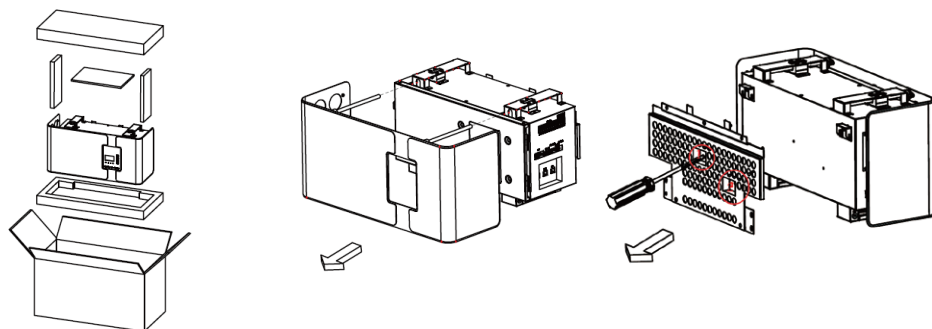

Figure 16 Unpacking the High-voltage Control Box
Step 7 Take the HV50056 out of the packaging box. Pull out the top two guide rods and remove the front panel. Remove the rear bracket from the HV50056, as shown in Figure 16.